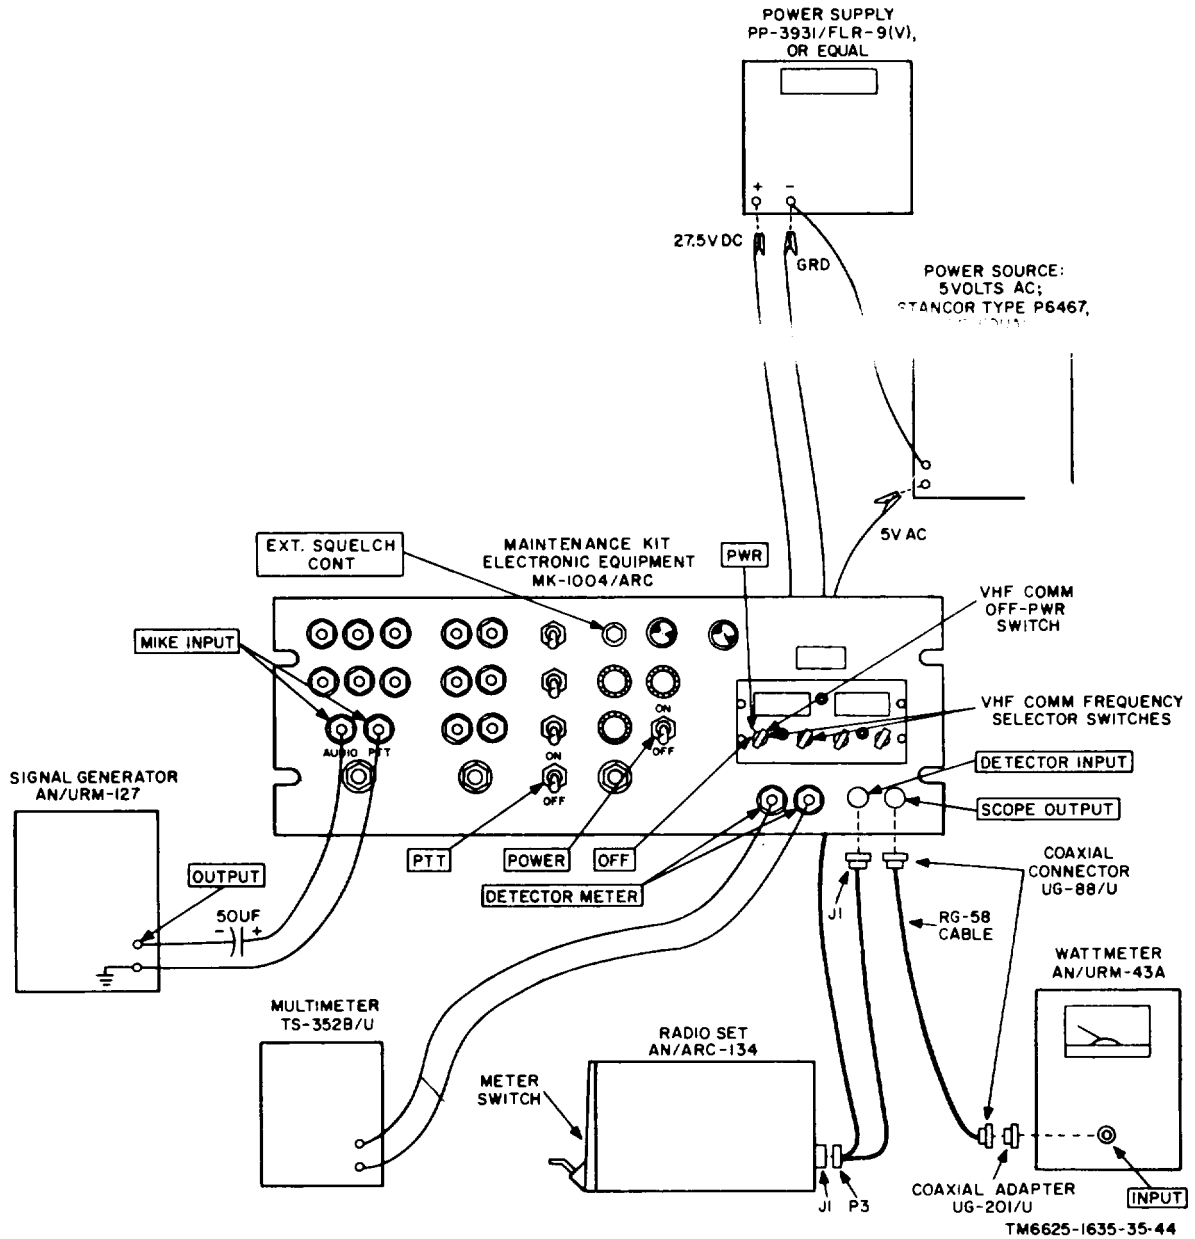

Figure 4-8. Detector circuit check, test setup, unmodified maintenance kit.
- (1) Radio Set AN/ARC-134.
- (2) Power supply.
- (3) Ac power source (unmodified equipment).
- (4) Wattmeter, Radio Frequency AN/URM-43A.
- (5) Generator, Signal AN/URM-127.
- (6) Multimeter TS-352B/U.
- (7) Adapter.
- (8) Two (2) coaxial connectors,
- (9) One (1) length of cable.
- (10) Capacitor, 50- μ f, 25-vdc,
b. Test Connections and Conditions. Connect the equipment as shown in figure 4-8 or 4-8.1. On modified equipment, place the C-1611D/AIC PVT-INT switch in position 3, the RECEIVERS 3 switch ON, all other RECEIVERS switches off, and position the VOL control as required. These settings must be maintained during the test.